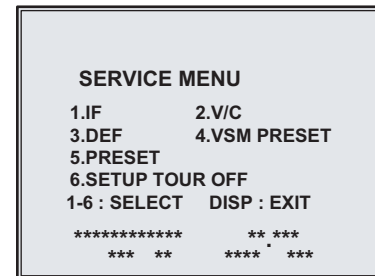

Fig.1
- (1) Remove the 4 screws [A], 1 screw [B] and 1 screw [C] as shown in Fig.1.
- (2) Withdraw the REAR COVER toward you.
- (1) Press the **[DISPLAY]** key and the **[PICTURE MODE]** key of the REMOTE CONTROL UNIT simultaneously.
- (2) The SERVICE MENU screen of Fig. 1 will be displayed.
Verify what to set in the SERVICE MENU, and set whatever is necessary (Fig.1).